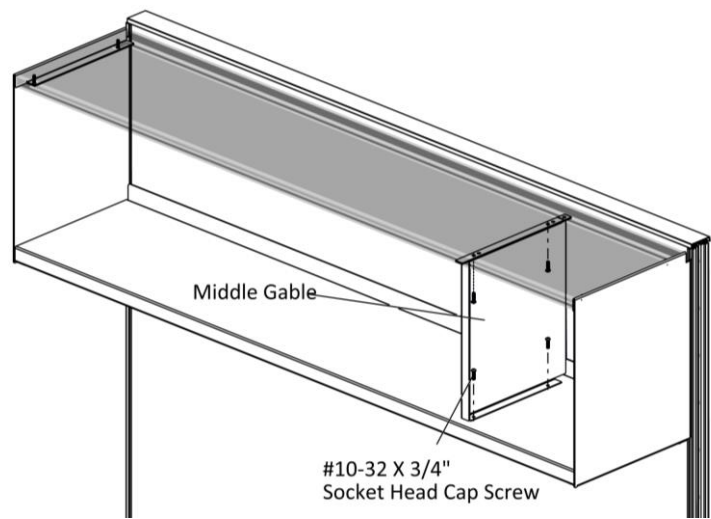

Figure 5
7. Position the middle gable at the desired location and securely fasten it to the top and bottom shelves with 10-32 X 3/4" Socket Head Cap Screws, (Figure 5).